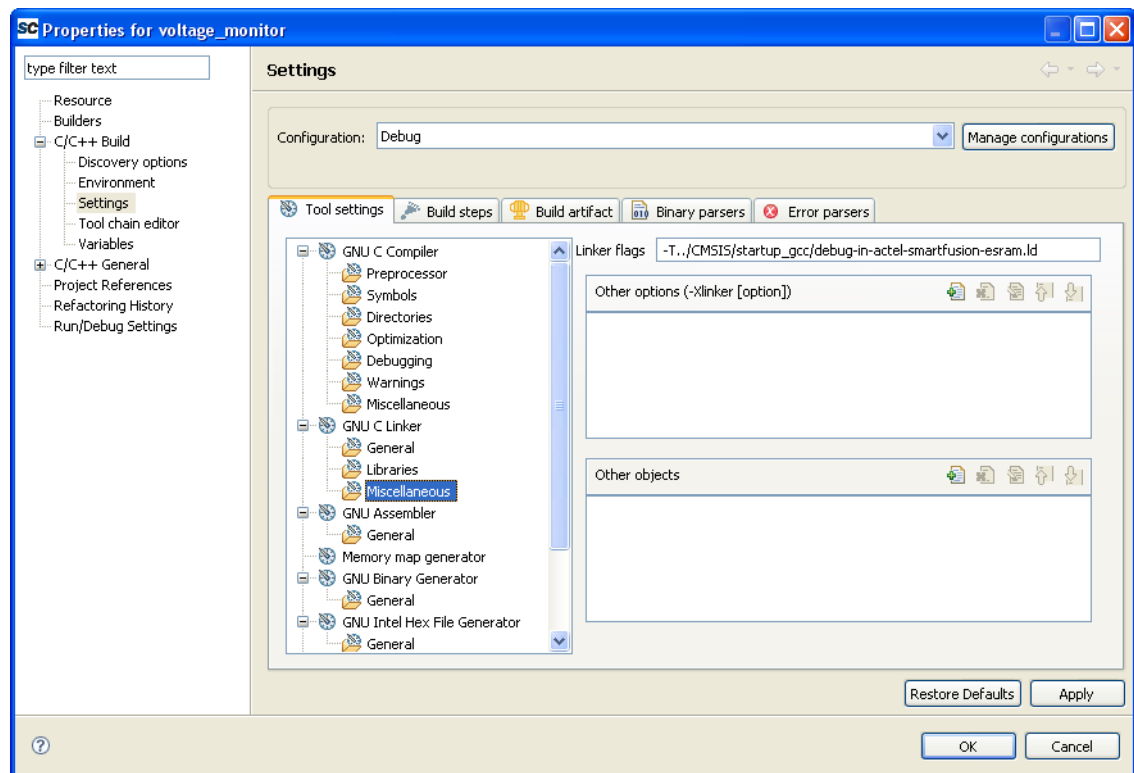

Figure 4-1 · Specifying the Linker Script
3. Enter `-T./CMSIS/startup_gcc/debug-in-actel-smartfusion-esram.ld` in the Linker Flags field (Figure 4-1. This command directs SoftConsole to use a linker script that builds an executable that will run from the SmartFusion internal SRAM.